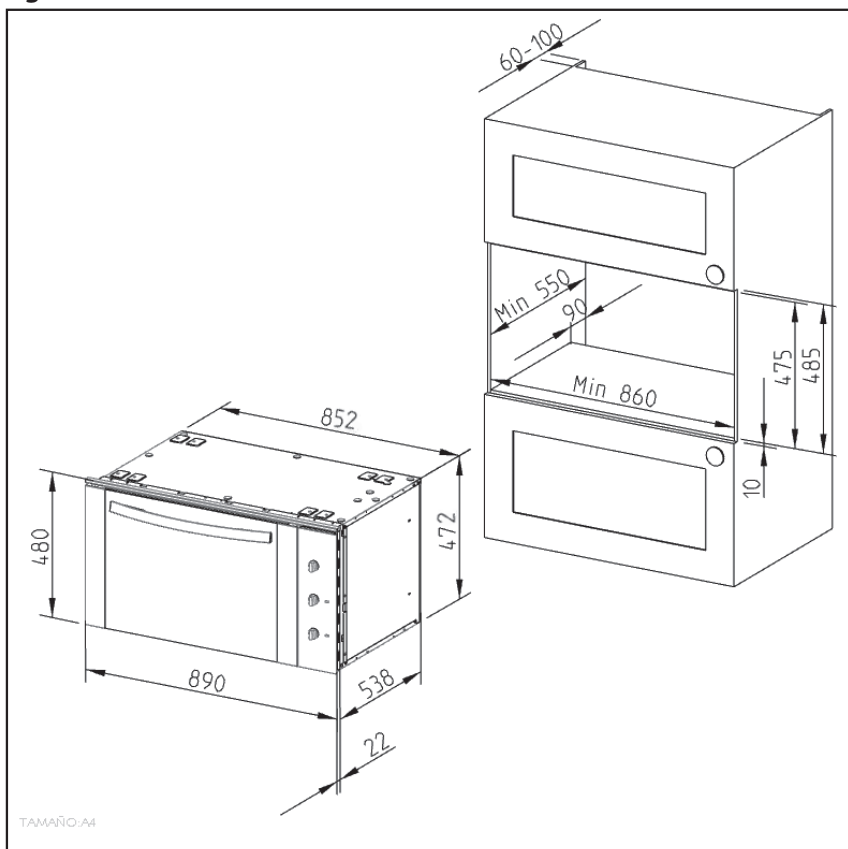

Fig 22
- With built-in multifunction ovens, the rear of the unit, corresponding to the shaded area (A)in Figure 22, must have nothing projecting out (unit reinforcement, pipes, sockets, etc.).
- **IMPORTANT INFORMATION** relating to sufficient ventilation around the oven. As shown in Figure 22, there is a void on the base part of the cabinet which is necessary to ensure the cooling fan fitted in the oven works effectively. If this void is not possible a cutout in the base of the cupboard measuring a minimum of 450mm (w) by 350mm (d) should be made to promote ventilation around the oven. Failure to have a void or cutout in the cabinet can VOID the WARRANTY.